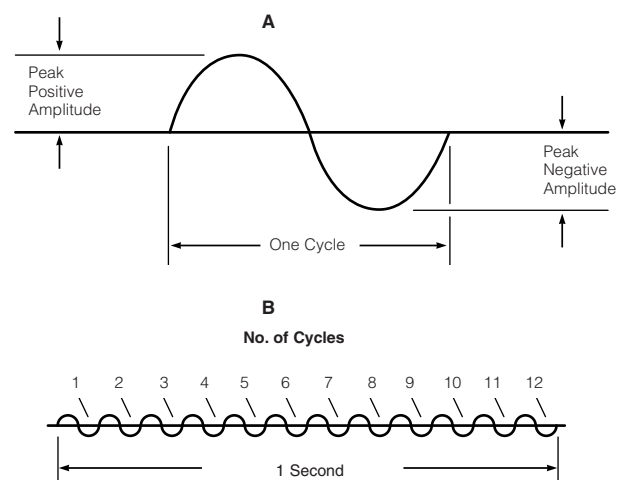

Figure 8
An RF wave is a sine wave, meaning that it smoothly swings from zero to a positive peak value, then back down past zero to a negative peak value, then back to zero to complete a 360 electrical degree cycle. The positive and negative peaks are always equal in amplitude. The two qualities which characterize this type of wave are amplitude and frequency (f). Figure 8 shows these two characteristics. Amplitude refers to the peak value attained by the wave and corresponds to voltage. Frequency refers to the number of oscillations per second. For example, the sign wave in Figure 8(B) has completed 12 cycles in one second. Therefore, we would say that this wave has a frequency of 12 cycles per second or 12 Hertz. The time for one complete cycle is defined as the period (T). The relationship between the period and frequency is given by the equation: